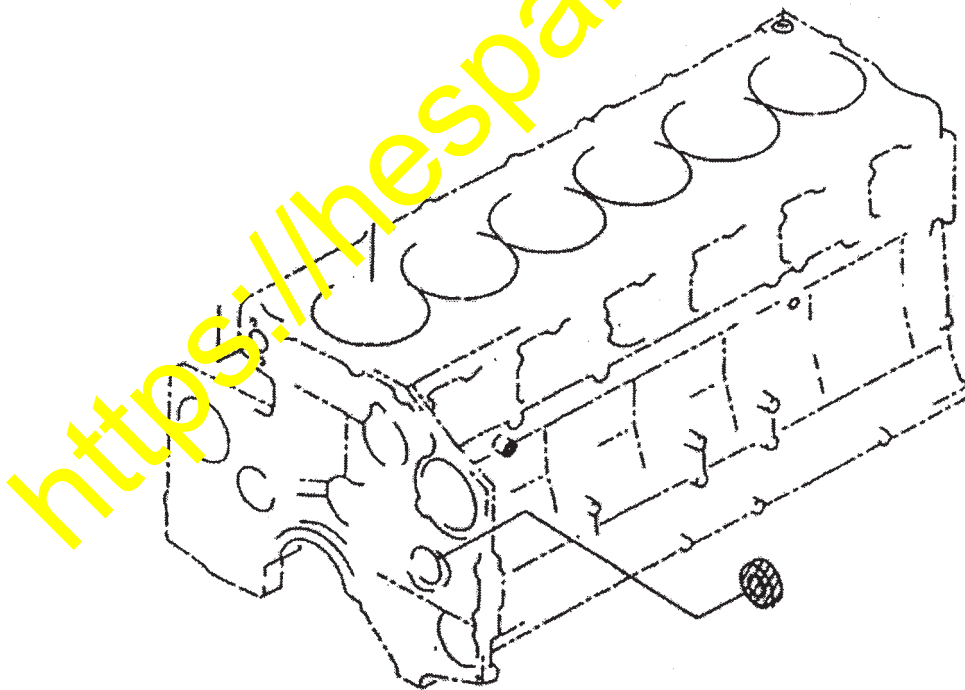

Fig. 1: The position of oil seal
- 1) ① According to Shop Manual, remove the injection pump, and remove the oil seal. (Fig. 1)
- ② Observe the following “2) Precautions”, and press-fit the improved oil seal.